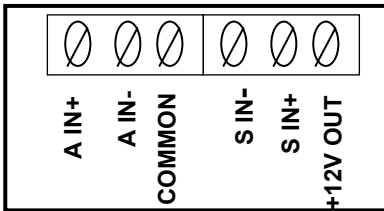

Figure 20
6. Insert the sensor's DC common wire into the **COMMON** terminal and secure the wire by turning the terminal's screw clockwise. (Refer to the MX001 box or to Figure 20 for the order of the terminals for the sensor wires.)